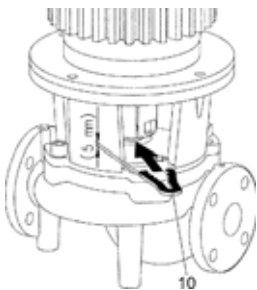

Fig. 19: Positioning the forked spacer
- Slide the forked spacer (Fig. 19, item 10) between the lantern and coupling. The forked spacer must sit there without any play.